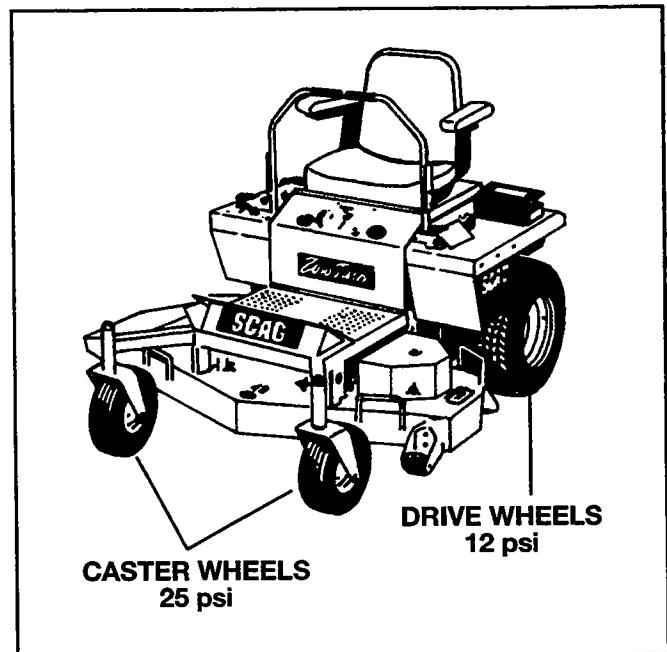

Figure 4
10. Before adjusting deck height (step 11), check tire pressures. (**See Figure 4**) Correct pressure of drive tires is 12-14 psi. Pressure for caster tires is 25 psi. Make sure pressure for each set of tires is the same.
1. Before making this adjustment, check tire pressure of drive wheels. Tire pressure for each wheel must be equal. **(See Figure 4)** If tire pressures are not equal, machine will pull to the side with the lower tire pressure.